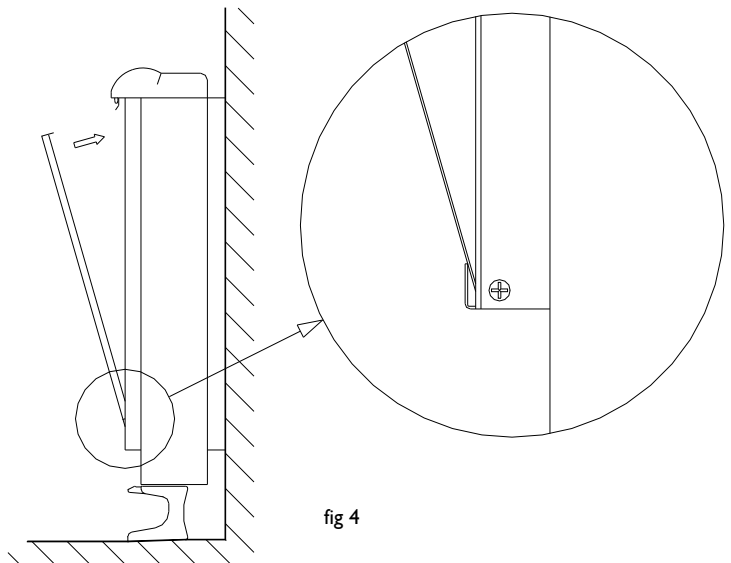

fig 4
11.- Refit the inner front panel. If the bricks have been fitted correctly you will find no difficulty in refitting the panel (fig 4).